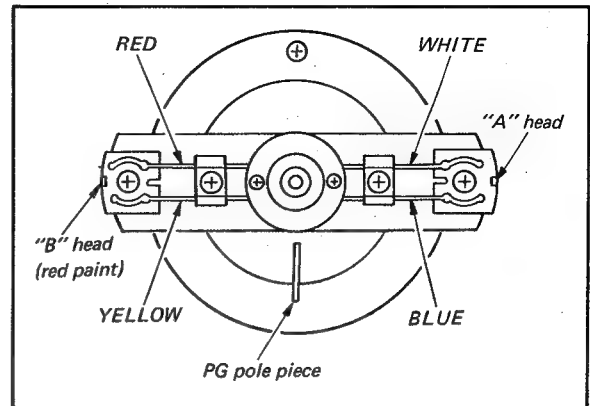

Fig. 4-4. Position of the head assembly
10. Carefully place the Video Head Assembly on the platform with the B head (identified by the red paint) at the left. See Fig. 4-4. The head assembly should fit down snugly against the platform without using force.